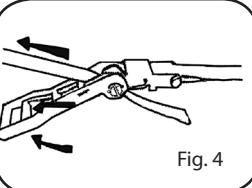

Fig. 4
- pull down the handle of the tensioner and pull the internal lever (Fig. 4), the strap will slacken, unfasten the anchoring points and put away the strap in the bag after having rolled it up carefully.